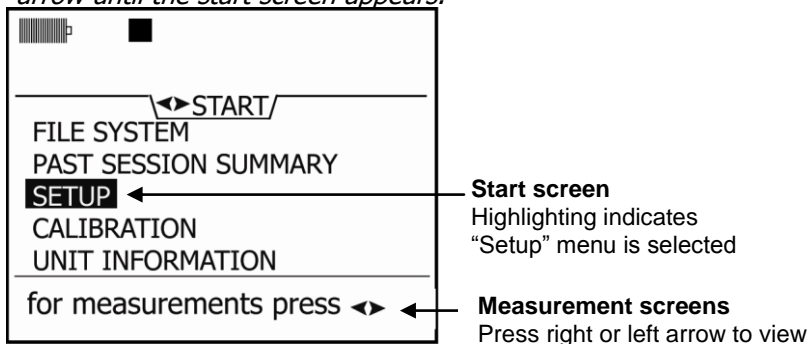

Figure 3-2: Start screen
- The **Start** screen will appear (see Figure 3-2 for details).
1. From the **Start** screen (see Figure 3-2 for details), select **Setup** and press **Enter**  .